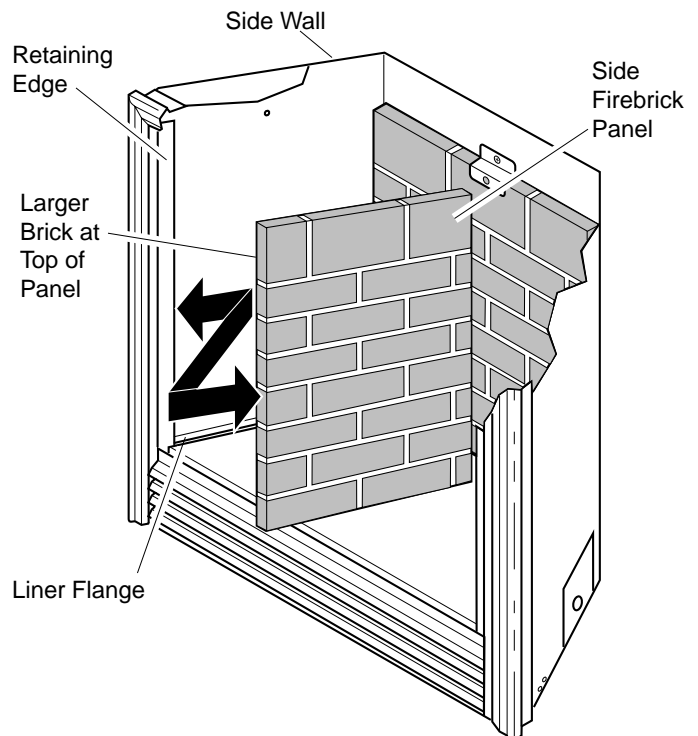

Figure 5 - Placing Side Firebrick Panel behind Retaining Edge
- With larger brick at top of panel, slide one side firebrick panel behind the retaining edge of fireplace. Gently press the firebrick panel back against the side wall (see Figure 5). The bottom edge of the firebrick panel will rest on liner flange.